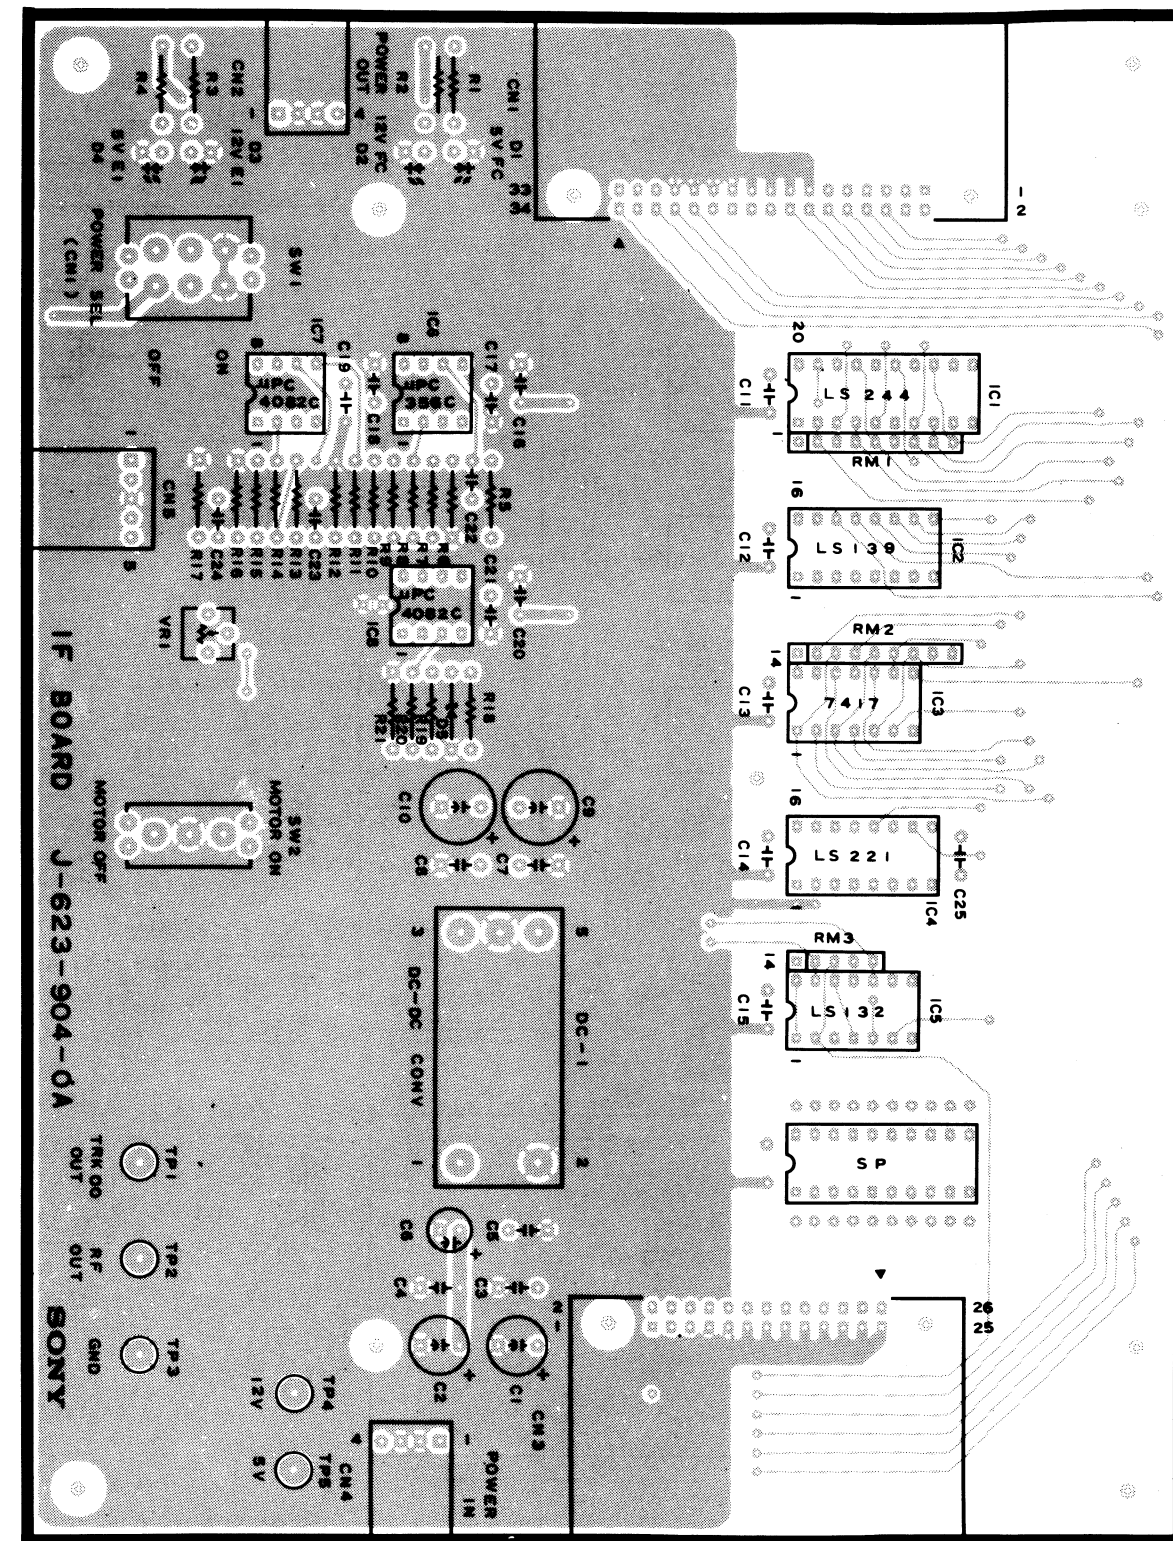

Fig. 2-5 Part Layout on IF Board 52/53
- ⑤ RF out/TRK00/GND..... These test terminals are used for radial alignment adjustment.
(3) Part Layout and Circuit Diagram on IF Board 52/53. (Refer to Fig. 2-5, 2-6)